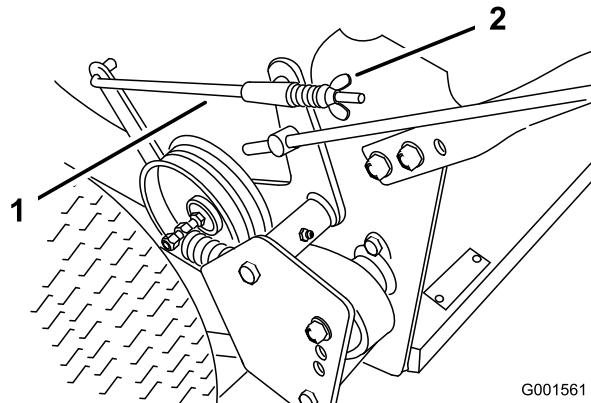

Figure 30
3. To adjust the brakes, rotate the wing nuts on the brake rods (Figure 30). Rotate the wing nuts clockwise to tighten the brakes; rotate them counterclockwise to loosen them.